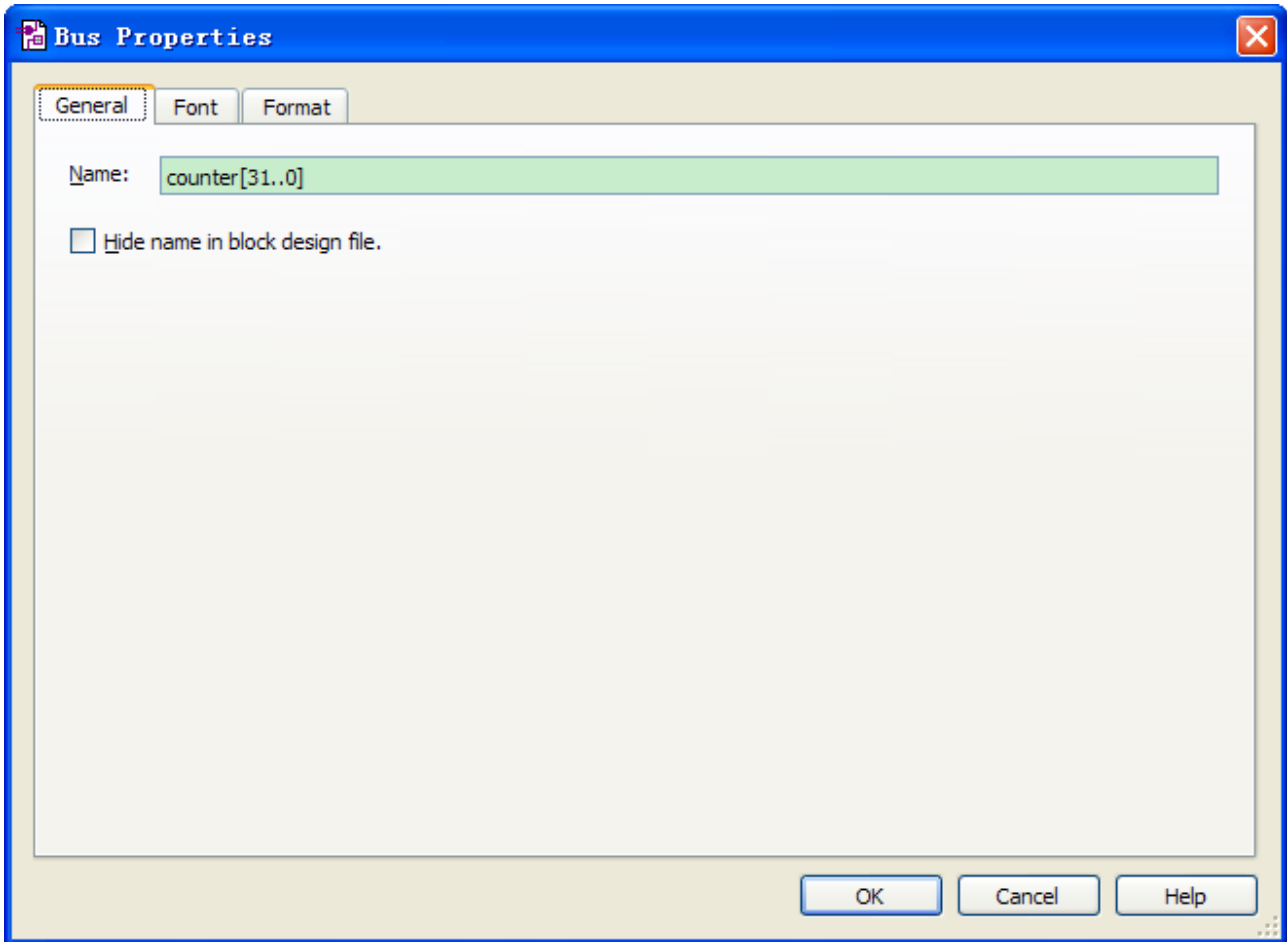

Figure 6-31 Change the output BUS name
- j. Type counter [31..0] as the bus name (see **Figure 6-31**). The notation [X ..Y] is the Quartus II method for specifying the bus width in BDF schematics, where X is the most significant bit (MSB) and Y is the least significant bit (LSB).